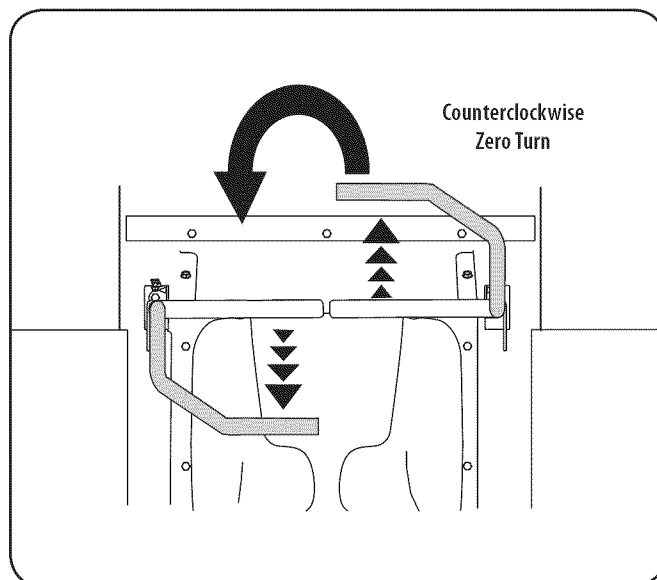

Figure 10
3. To turn counterclockwise, move the right control lever forward while simultaneously moving the left control lever rearward. See Figure 10.